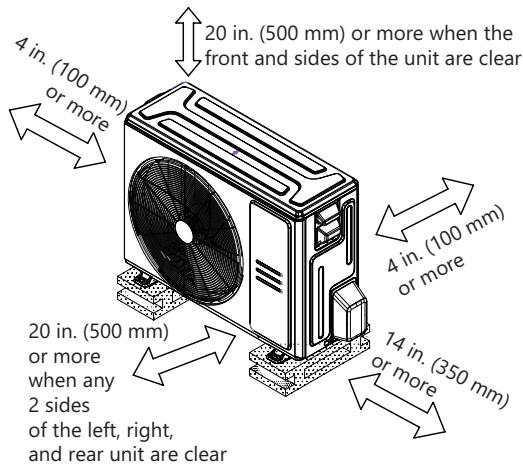

Fig. C-1: Clearance Dimensions
- A location which provides appropriate clearances (see Fig. C-1).